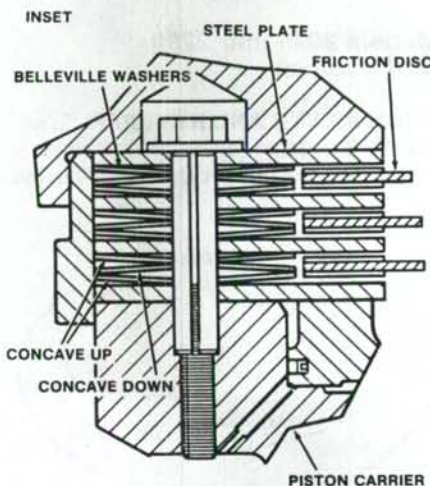

Fig. 92—Illustration showing correct assembly position of Belleville springs in master clutch. Refer to text.
Check all parts for excessive wear or other damage and renew as necessary. Lubricate new "J" rings (4) with petroleum jelly and install in inner and outer grooves of piston. Lubricate seal rings (3) with petroleum jelly and install over "O" rings in inner and outer grooves of piston, then using a smooth wooden dowel or round plastic pen, seat seal rings into inner and outer grooves of piston. Lubricate inner and outer edges of piston and install, flat side inward, into piston carrier. Install first, a steel plate (6), then three Belleville washers over each of the three roll pins in the carrier. Refer to Fig. 92 and install the first Belleville washer concave side up, the second washer concave side down and the third concave side up. Lubricate friction disc with transmission oil and install on top of steel plate. Repeat installation procedure for remaining plates, discs and washers, except for the last hub disc (9—Fig. 91). Install hub disc with gear teeth toward inside, aligning the other discs with gear teeth. Install remaining Belleville washers as previously outlined and remaining steel plate, then install the three bolts and washers and tighten evenly until the last steel plate is 0.015-0.030 inch (0.381-0.762 mm) above piston carrier surface. Install three new oil rings (1) and reinstall clutch assembly onto flywheel making sure the three bolt heads of clutch assembly fit into bores of flywheel.